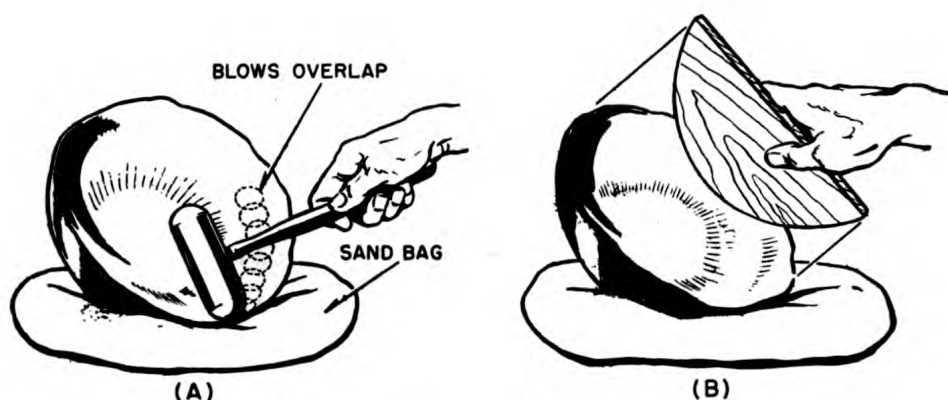

Figure 57.—Forming a symmetrical shape.
over the depression in the bag. Now start at the outside edge and strike overlapping blows, as in (A) of figure 57. As you rotate the metal work steadily and gradually from the outside to the inside in concentric circles. Check your work frequently as shown in (B). Use either the original piece or a template to make sure that the correct shape or curve is being formed. To finish the piece, put the inside of the curve over a round